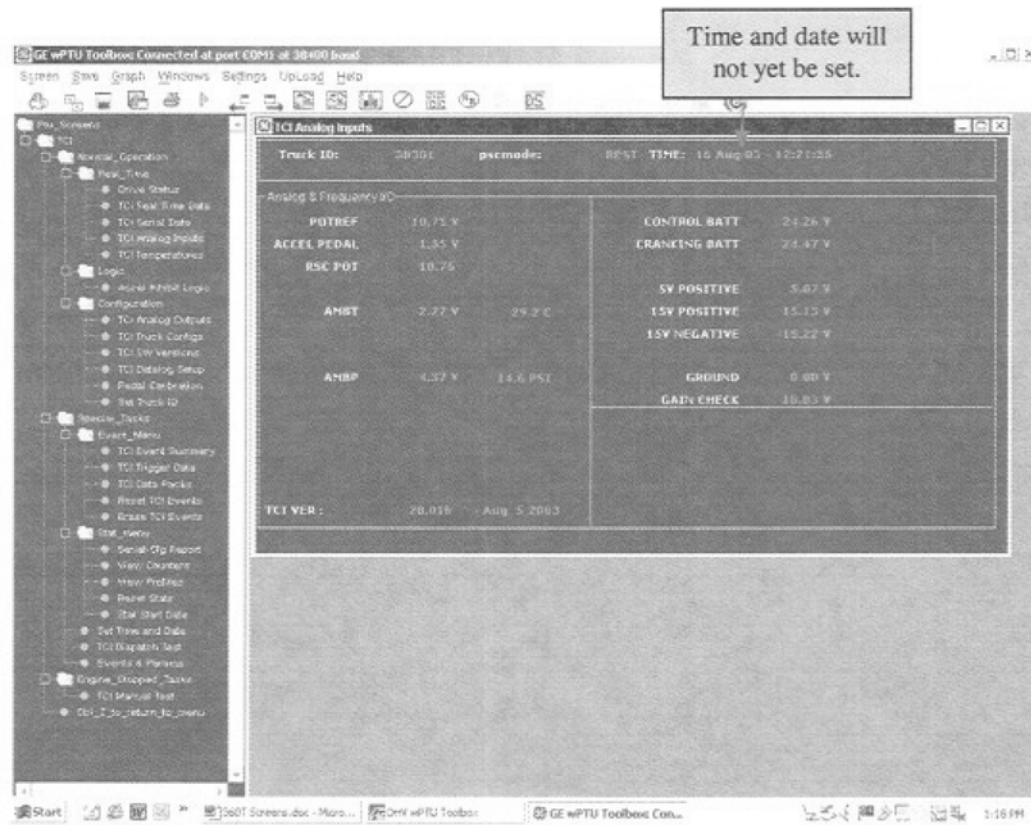

FIGURE 3-9. TCI ANALOG INPUTS SCREEN
- Verify that the analog values are similar to the example in Figure 3-9.